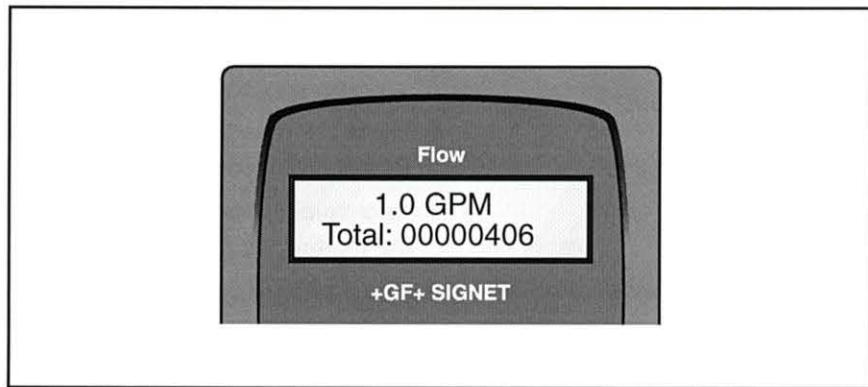

Figure 48. Transmitter Indicating a Flow of 1.0 GPM
- F. Observe the display of the digital flow transmitter, as shown in figure 48, and record the flow rate indicated on the display.